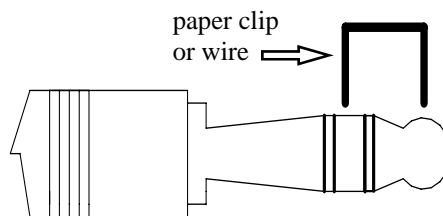

Figure 3
5. Place a paperclip on the end of the serial pin so that it touches both the tip of the pin and the metal area between the two black rings (see fig. 3). Again click on the **Test Port Now** button. If the message “Connection OK” now appears, this is the Com port connected to your serial cable.